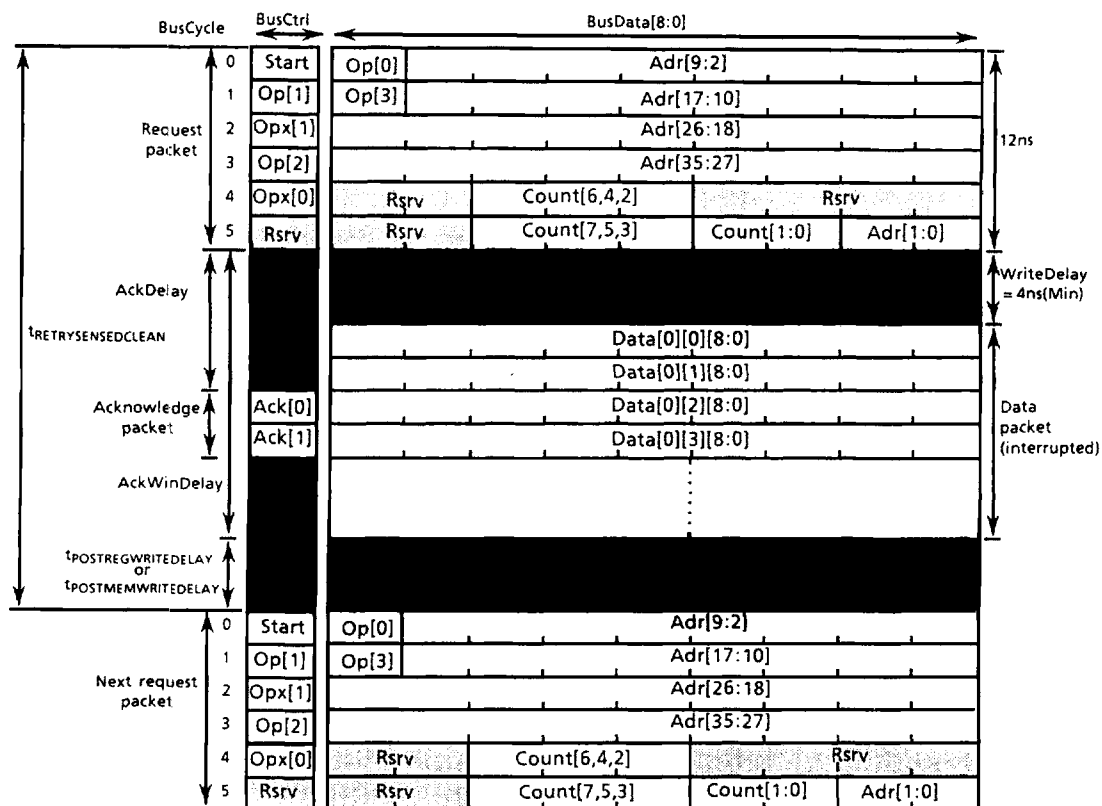

Figure 11. Write Operation for Memory or Register Address Space (Ackpacket = Nack or Nonexistent)
(2) Write Operations When Nack or Nonexistent is Returned (see Figure 11)